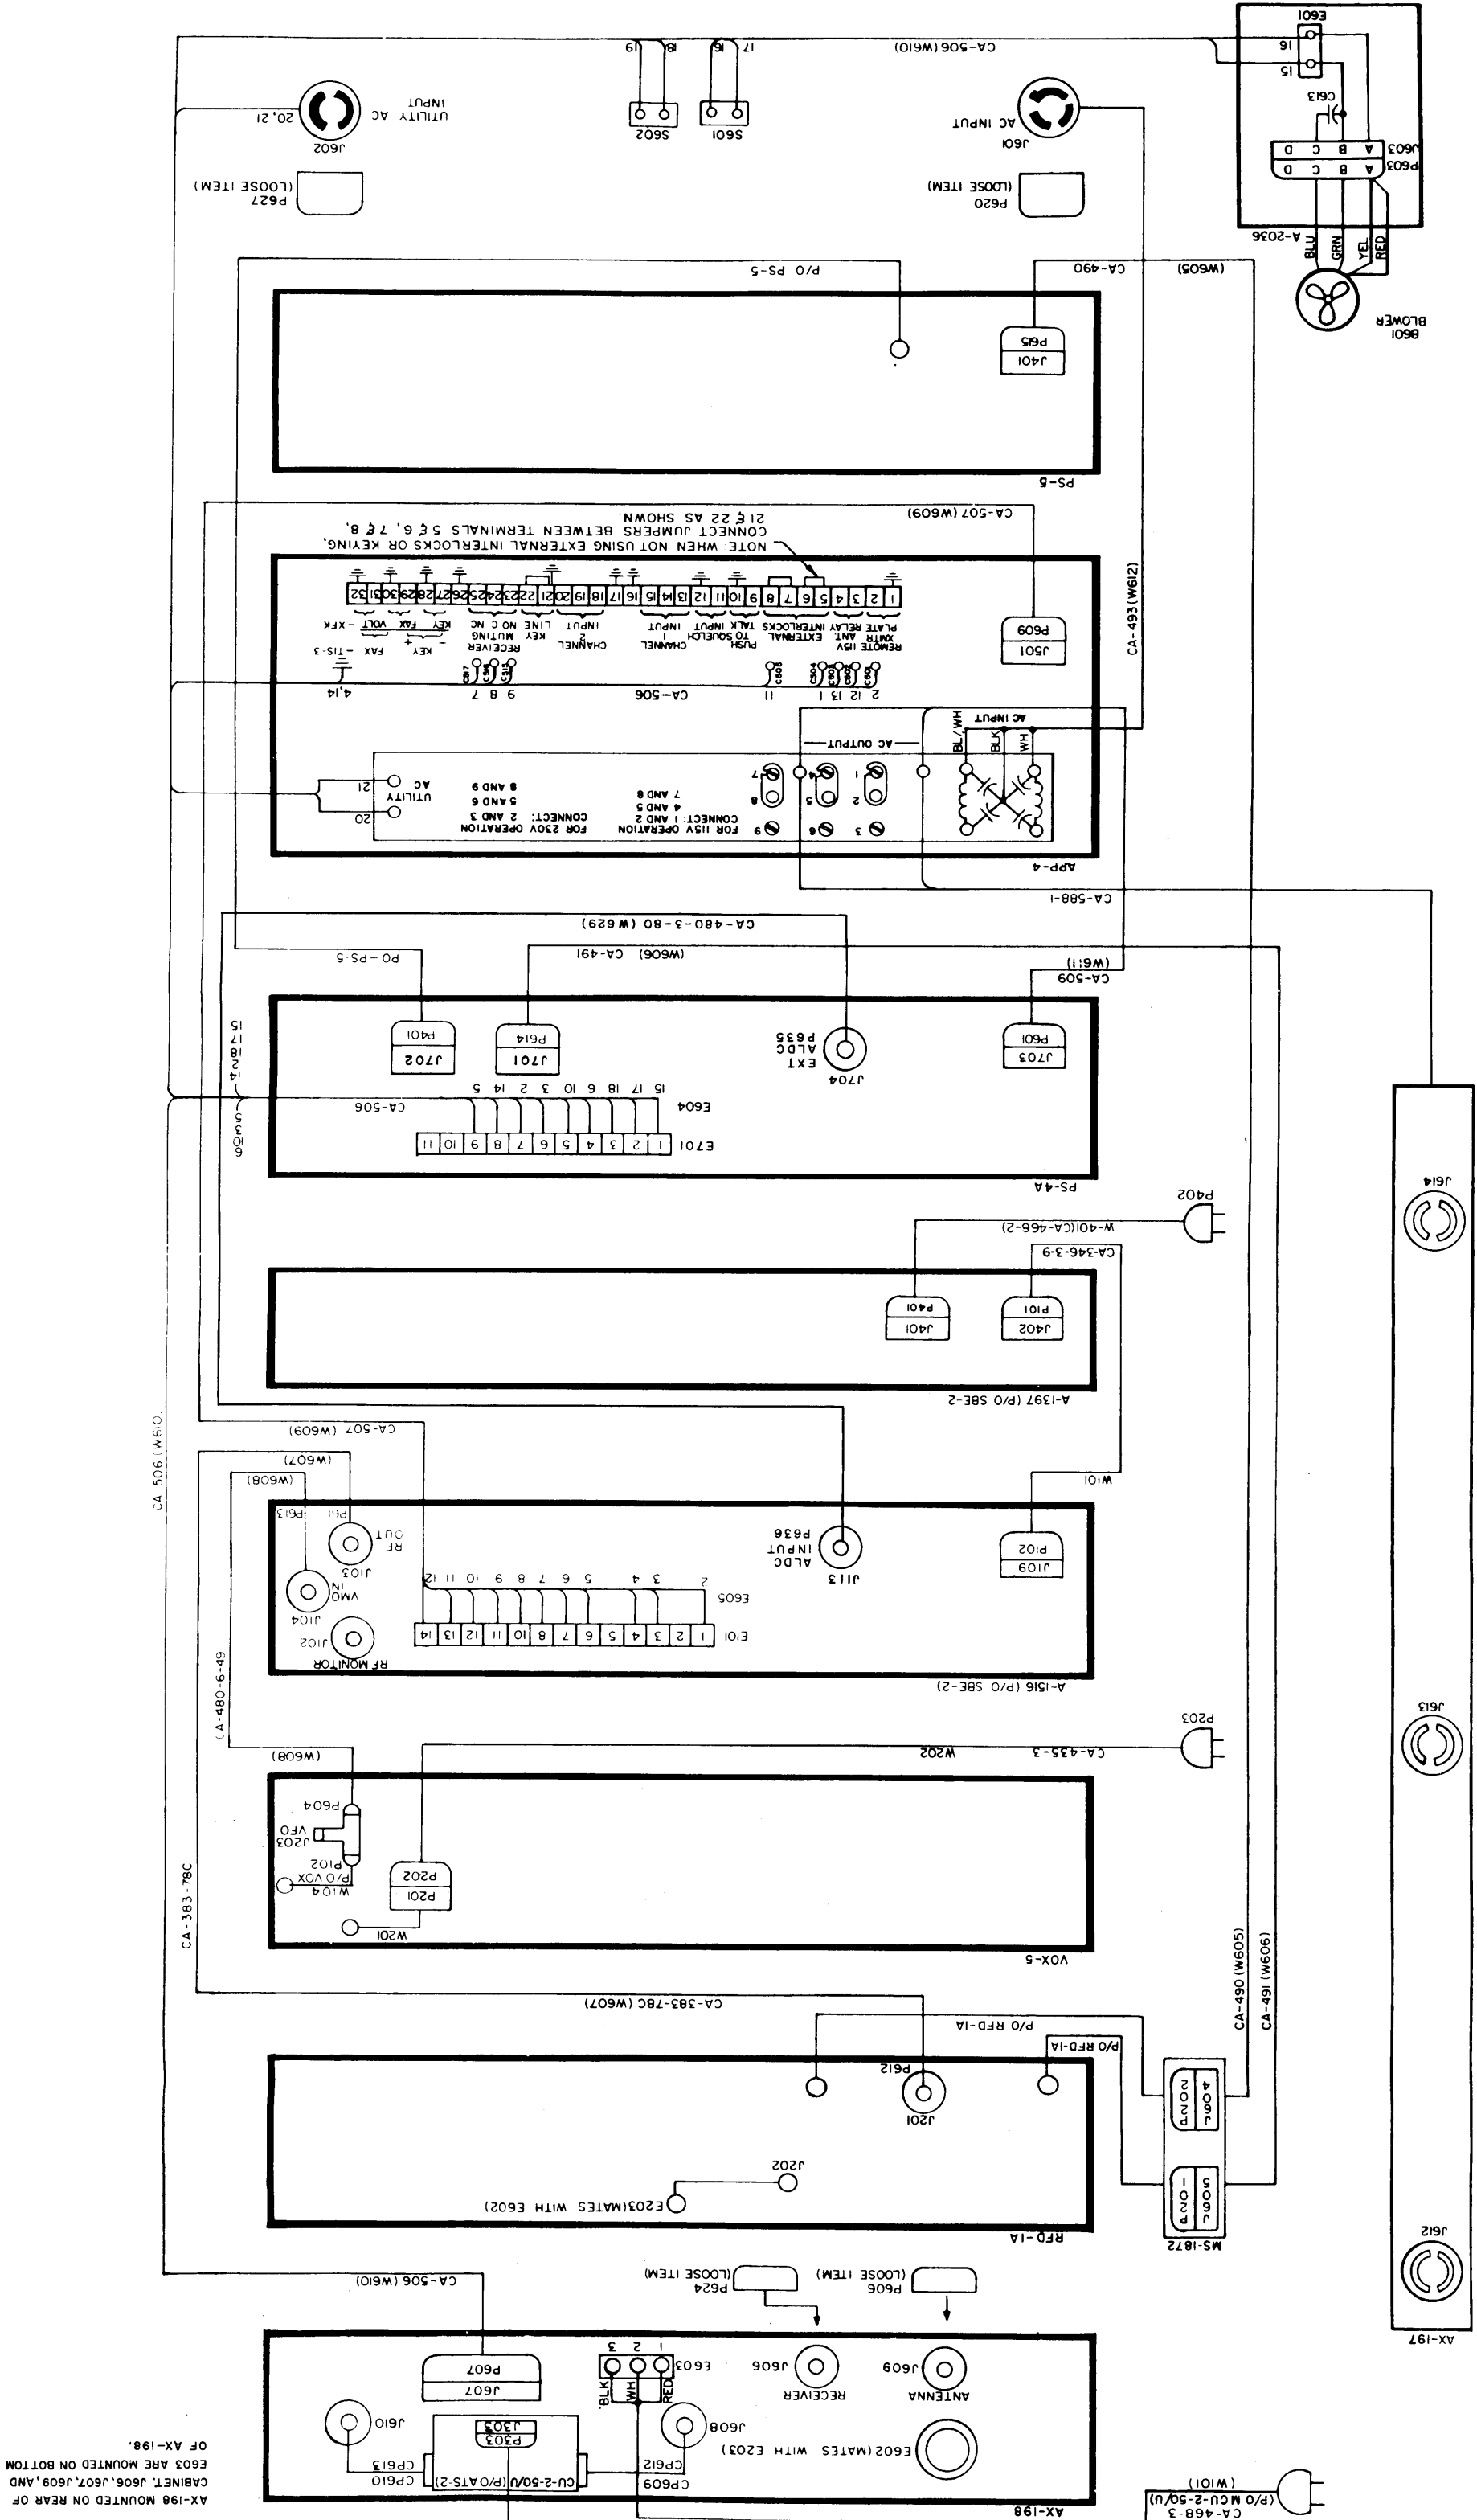

FIGURE 2-6. CABLING INTERCONNECTIONS, SBT-1K (B)
c. INTERCONNECTION OF MODULAR UNITS. - Figures 2-6 and 2-7 illustrate the cabling and wiring interconnections between the various modular units contained in the transmitter. Refer to figures 2-6 and 2-7 and connect modular units as indicated.